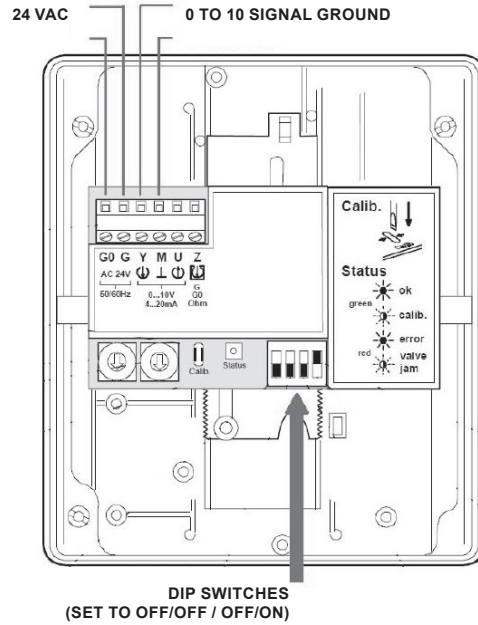

Figure 2. Type VH210 Settings and Connections
3. Connect the ETC to the Type VH210 Pilot using 18 AWG or larger wiring. Refer to Figures 2 and 3. No separate power is required to operate the Type VH210 Pilot.